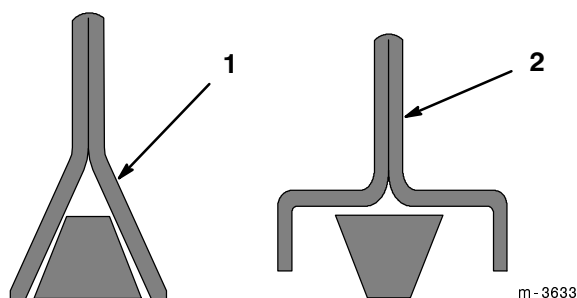

Figure 14
- C. Lift up on the lift handle of the backside idler pulley and place the wide, back surface of the belt under the pulley (Fig. 14 and 15).